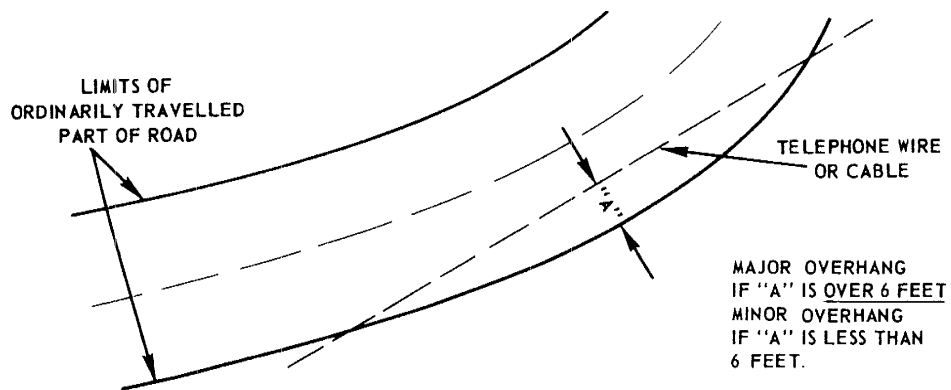

Fig. 3
**1.04** Clearance requirements for drop wire overhanging the travelled part of roads vary somewhat with the degree of overhang involved. (See tables under Part 2A, 2B of this section and Fig. 3). Eliminating or reducing road overhang will frequently permit smaller ground clearances.
Minor Overhang	Fig. 3